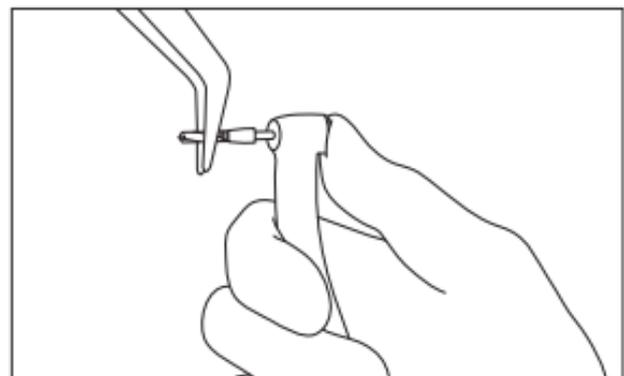

Fig. 11
2) Remove the bur/drill. (Fig. 11)